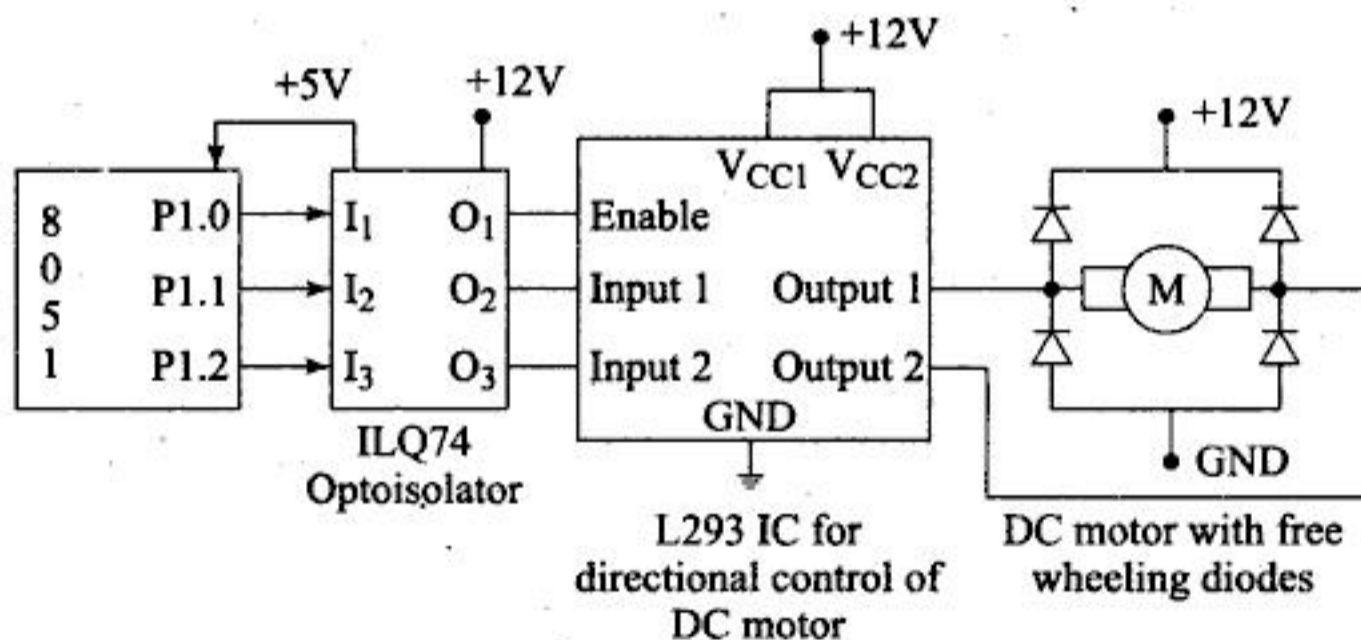

Figure 10.22. Bidirectional motor control using a L293 chip.
Apart from using a H-bridge, an IC such as L293 can be interfaced between 8051 and DC motor to control the direction of the DC motor as shown in Fig. 10.22. The optoisolator ILQ740 opto provides additional protection of the 8051 by isolating the 8051 from the DC motor circuit which is of higher power rating. The IC L293 has 3 input pins which are (1) enables pin-which enables the IC L293 when high (2) INPUT1 = 1, turns the motor in clock-wise direction (3) INPUT2 = 1 turns the motor in counter clock-wise by controlling current direction at OUTPUT1 & OUTPUT2 pins.